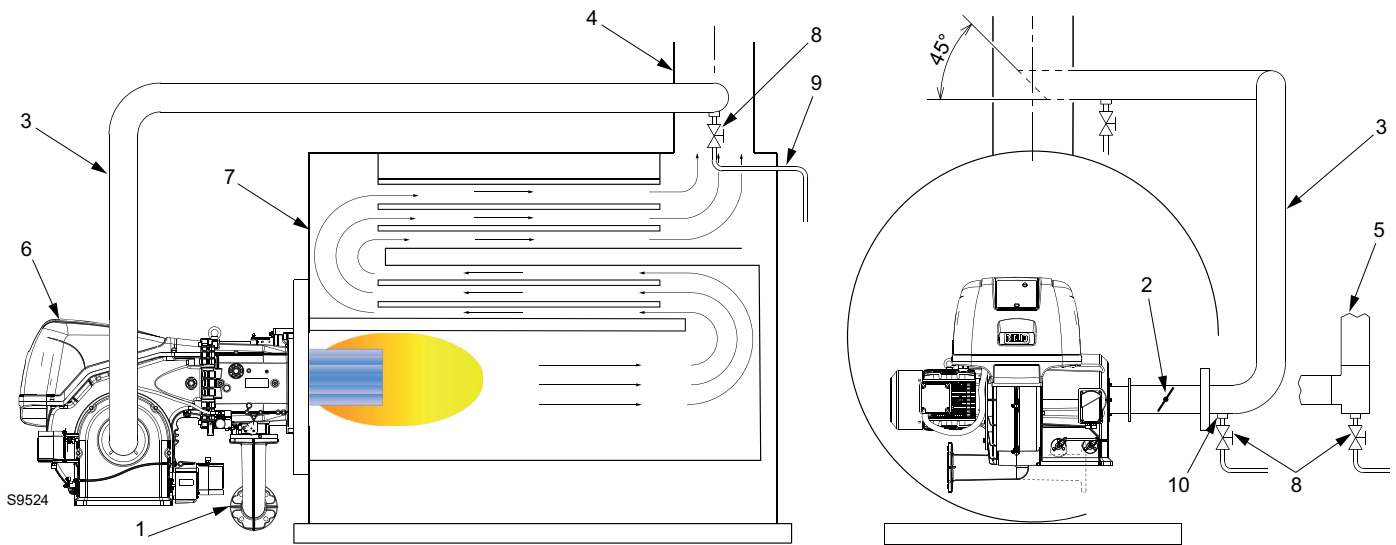

Fig. 18
- Normally the duct would connect to the stack as shown in Fig. 18, with a 45° cut facing the flue gas flow and with the center of the cut centered in the stack. The duct could be made to the smoke box, but must still be located with the same 45° cut facing the flue gas flow stream and with the center of the cut in the center of the stream.
Key (Fig. 18)